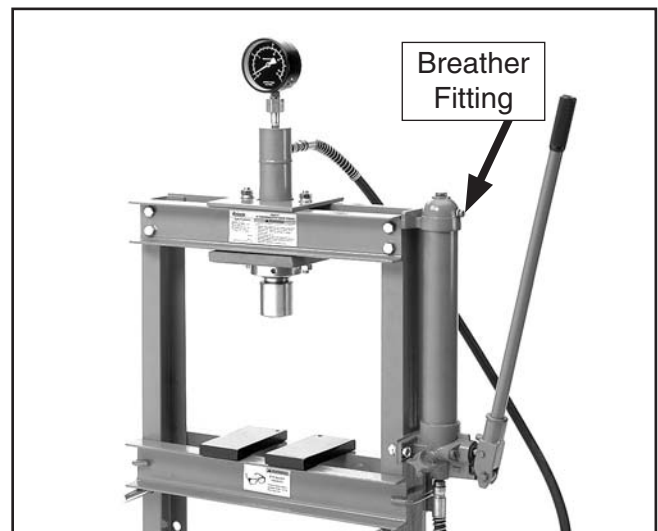

Figure 26. Breather fitting.
2. With the press completely retracted in the uppermost position, use a 14mm wrench to remove the breather fitting shown in **Figure 26**, and fill the pump reservoir with any standard hydraulic oil until it runs from the port. Reinstall the breather fitting.